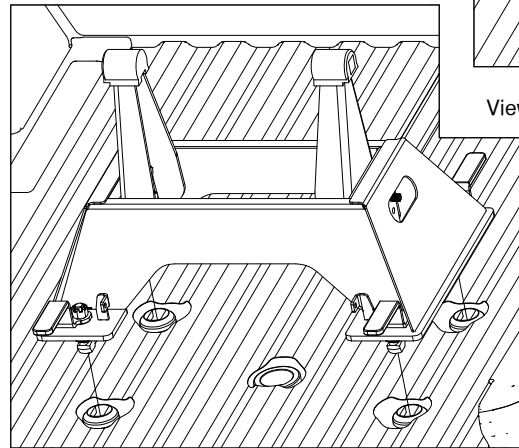

Figure C1: View of unlatched base.
- 1. Place Base.** Remove the latch pins from each side of the base and rotate the handles out, see Figure C1. Place the base over the attachment points and carefully lower it until the latch cams pass through the floor and the base rests flat against the top of the attachment points.